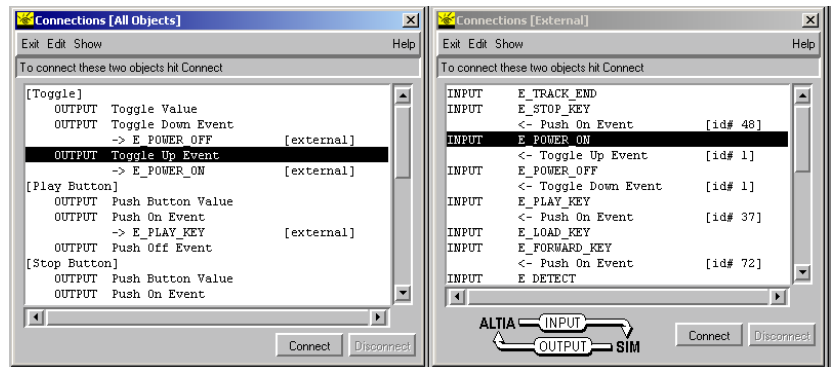

Figure 199: Binding Altia objects to visualSTATE elements
- I In Altia, bind the visualSTATE events and action functions you want to use in the Altia design to objects. This binding is done via the Altia Connections (All Objects) and Altia Connections (External) dialog boxes (see *Figure 199*, page 284). You open the dialog boxes by choosing *Connections>All Objects* and *Connections>External Signals* on the Altia menu.